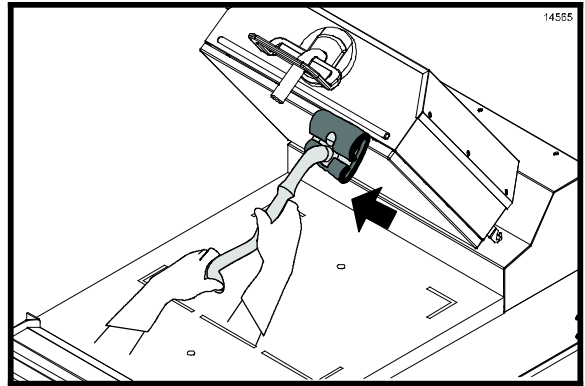

Figure 23
14. Apply **McD Hi-Temp Grill Cleaner (HTGC)** to the front side of the platen. (See Figure 23.)